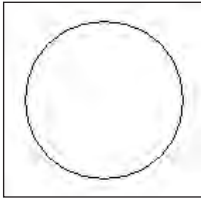

Figure 34-4: The circle drawn using the `circle3` AutoLISP routine
9. At the Please click a point: prompt, pick any point on-screen. You see a 3-unit radius circle with its center at the point you picked, as shown in Figure 34-4.